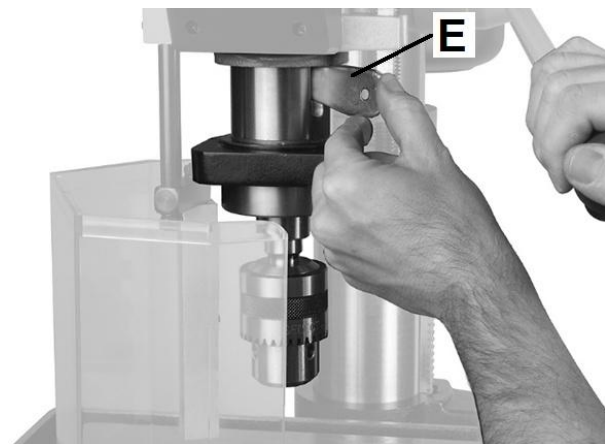

Figure 4-3: Drift key insertion
3. Place a piece of scrap wood on table, and lower quill (Figure 4-3) using feed handles.
5. Insert drift key (E, Fig. 4-3) into aligned slots and tap lightly. The chuck and arbor assembly should fall from the spindle.